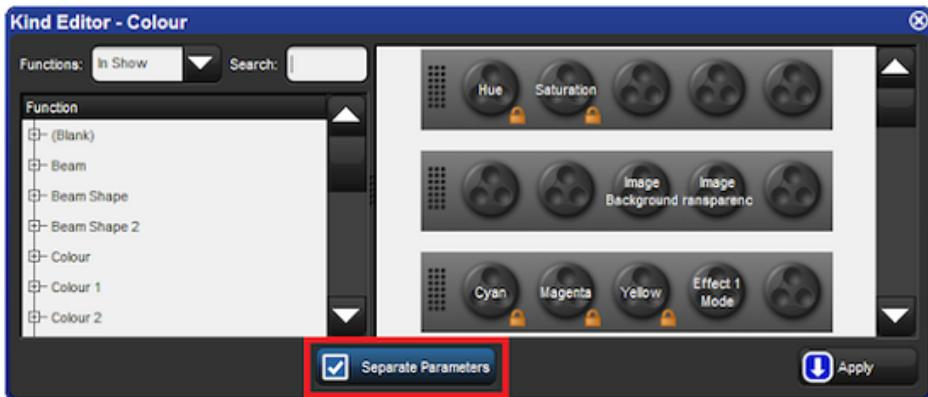

Figure 6.16. A Kind Editor for the Colour kind with seperate parameters turned on.
2. Toggle separating parameters on and off by pressing the parameter type buttons; see *Figure 6.16, “A Kind Editor for the Colour kind with seperate parameters turned on.”*.